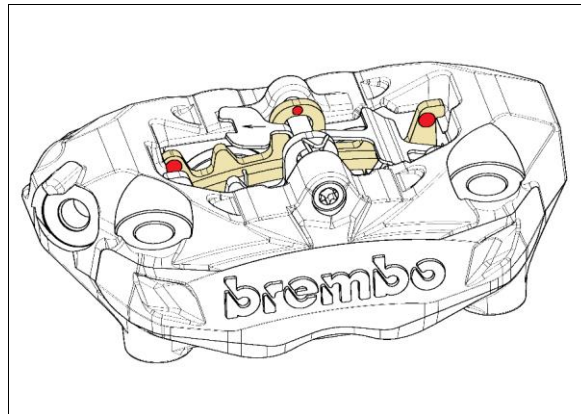

Figure 6
2. Retract the calliper pistons completely with circlip pliers, pushing against the brake pad backing plates in the three positions indicated in fig 6.